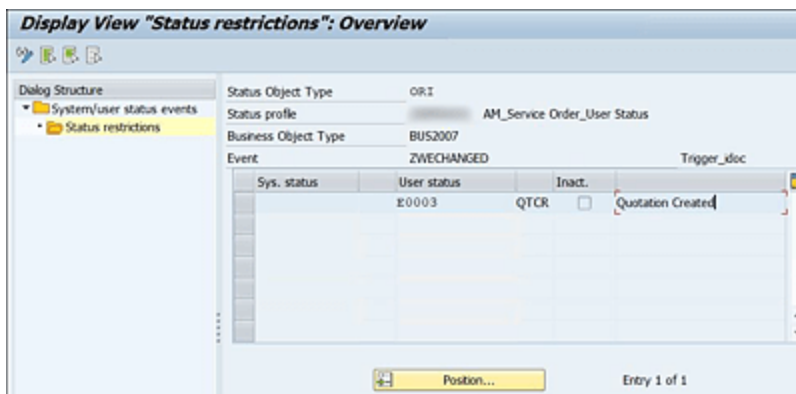

Figure 5.15 User Status Restrictions for Event Configuration
- Under **Status restrictions**, shown in Figure 5.15, we've maintained the user status **QTCR (E0003)** with the **Inact.** (inactive) checkbox unselected. This means that the event ZWECHANGED of business object type BUS2007 will be triggered when the user status QTCR is set for a particular service order at the header level.